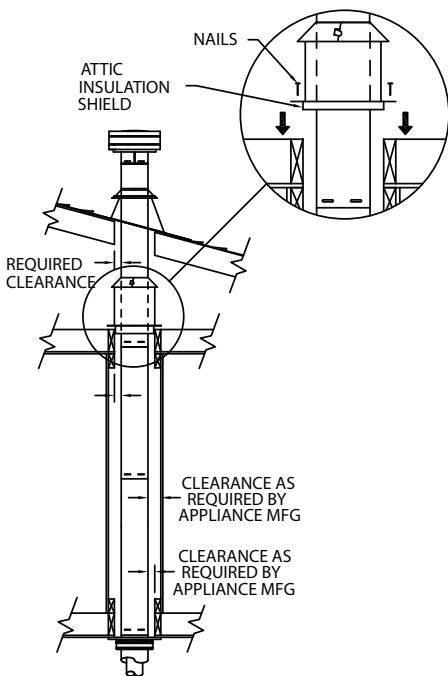

Figure 19
(1) For multi-story vertical installations, a Ceiling Firestop is required at the second floor, and any subsequent floors (**Fig. 19**). Refer to **Table 1, page 8**. Cut and frame a square opening for installation of the Ceiling Firestop.
(2) If Vent passes through any occupied areas above the first floor, including closets and storage spaces, it must be enclosed. The enclosure may be framed and sheetrocked with standard construction materials, but required clearances to combustibles
(3) If venting system passes through an attic space the Attic Insulation Shield or a chase enclosure must be installed to prevent contact between Pipe Sections and the insulation or other debris. For the Attic Insulation Shield, nail the base to floor of attic and adjust shield for appropriate insulation level, then attach the collar at the top of assembly (**Fig. 19**). For a chase enclosure, it may be constructed out of sheetrock or similar building materials and framed around the support box or the pipe, maintaining the clearance to combustibles as required by the appliance manufacturer. For vaulted ceilings a chase enclosure must be constructed as the Attic Insulation Shield can not be installed.